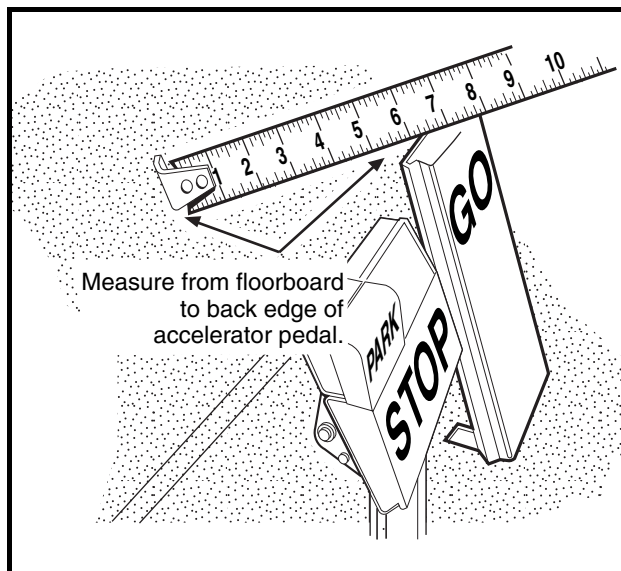

Figure 5-25 Accelerator Pedal Height Measurement
- 4.3. With the park brake unlocked, measure and note the distance from the top of the accelerator pedal to the floorboard, and then lock the park brake (**Figure 5-25, Page 5-18**).